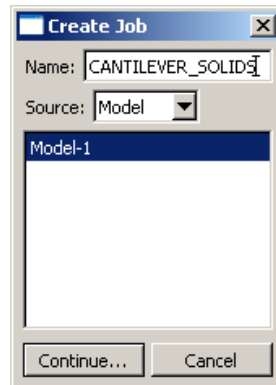

Figure 25. Create Job Dialog Box (CANTILEVER_SOLIDS)
- In the **Create Job** dialog box, create a **Name:** for this job called **CANTILEVER_SOLIDS**. Blank spaces are not allowed in a job name. Thus the use of the underscore in the name. The **Create Job** dialog box should look identical to that in Figure 25.